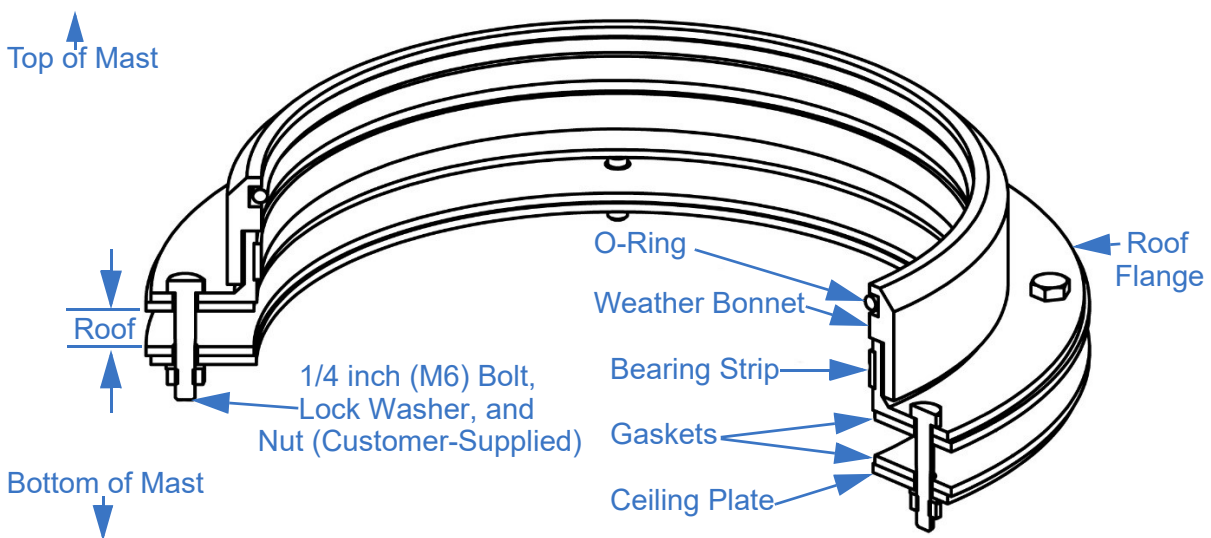
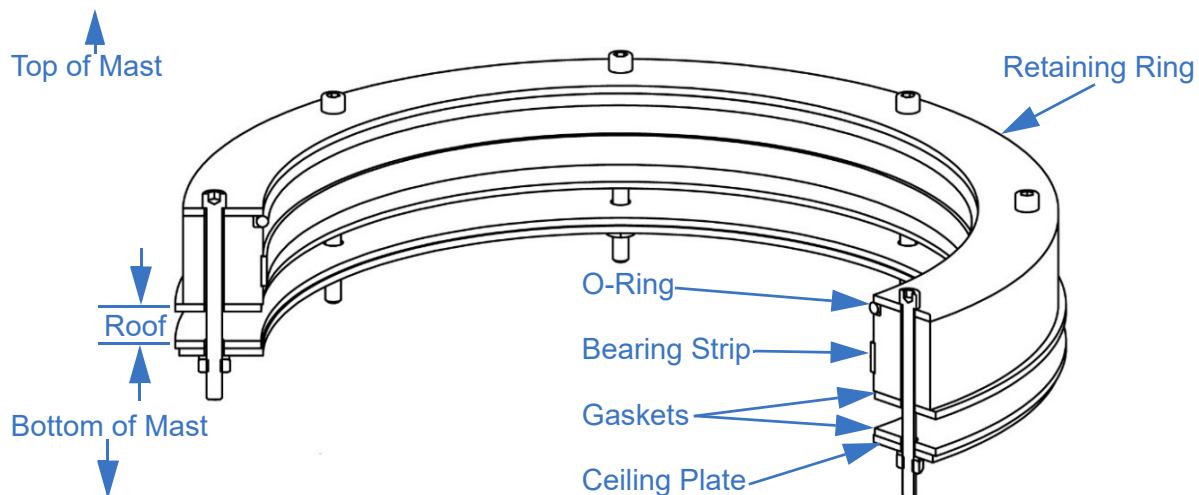
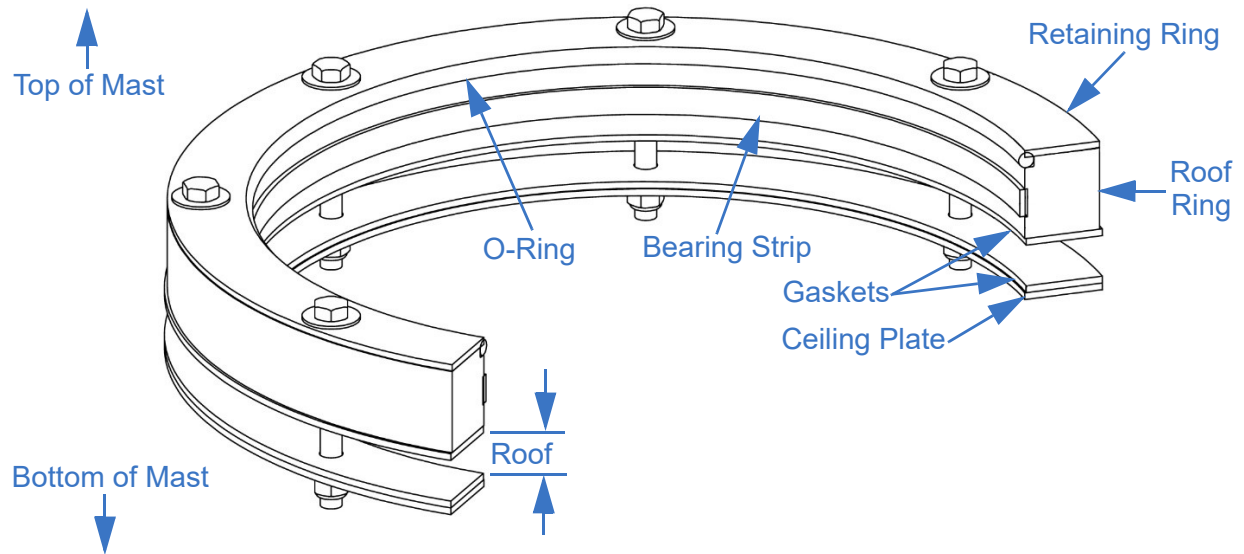

Figure 5-14 Internal Mounting Kit for Heavy Duty Masts (P/N: 905733)
Figure 5-15 Internal Mounting Kit for Super Heavy Duty Masts (P/N: 910784 Shown)
Figure 5-16 Ultra Heavy Duty Internal Mounting Kit (P/N: 5476101)
3. Center the ceiling plate from the internal mounting kit (Figure 5-14, Figure 5-15, or Figure 5-16) over the hole and use it as a template to drill bolt holes for attachment.
- a. Line up the holes of the roof, the gasket with silicone sealant applied, and the roof flange (Figure 5-14). Ensure the gasket is between the roof and roof flange.
- c. Fit the other gasket (Figure 5-14) against the inside of the roof. This gasket does not need sealant. It will be held in place by the ceiling plate. Fit the ceiling plate in place and ensure all holes align.
Note that the weather bonnet and o-ring are not yet installed (Figure 5-14).
- f. Slide the weather bonnet and o-ring over the bottom of the base tube and up the mast past the drain hole towards the collar. If they are difficult to maneuver, put soapy water on the mast to allow them to slide more freely. Ensure the weather bonnet is oriented correctly, and the o-ring is in the notch in the weather bonnet (Figure 5-14).
- a. Line up the holes in the roof, gasket, and roof ring (Figure 5-16). Ensure the gasket is between the roof and roof ring. Leave the retaining ring and o-ring off. These will be installed later.
- c. Fit the other gasket (Figure 5-14 and Figure 5-16) against the inside of the roof. This gasket does not need sealant. It will be held in place by the ceiling plate. Fit the ceiling plate in place and ensure all holes align.